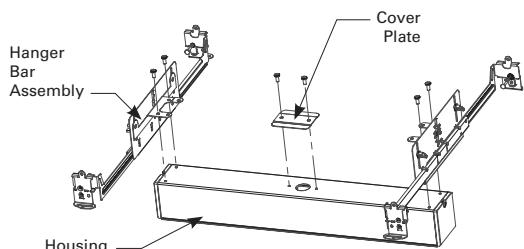

Figure 3
5. Install the housing using the hanger bars. The hanger bars can be extended up to 25.5", and are designed to be nailed or screwed to studs, clipped onto the T-grid of a suspended ceiling, or be suspended from wires. If the hanger bars need to be configured perpendicular to the fixture, the hanger bar brackets can be attached at the ends of the fixture using the screws provided (See Figure 3).